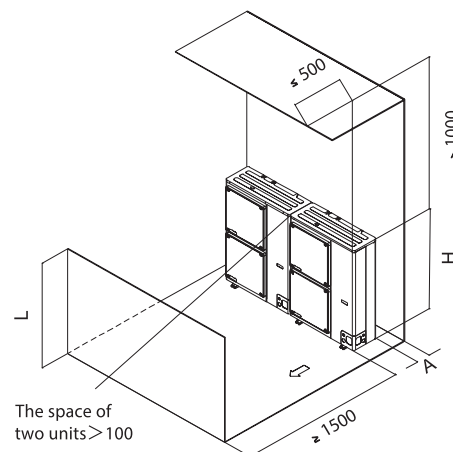

Figure 18
b. Group units installation (more than two units)(see Figure 18)